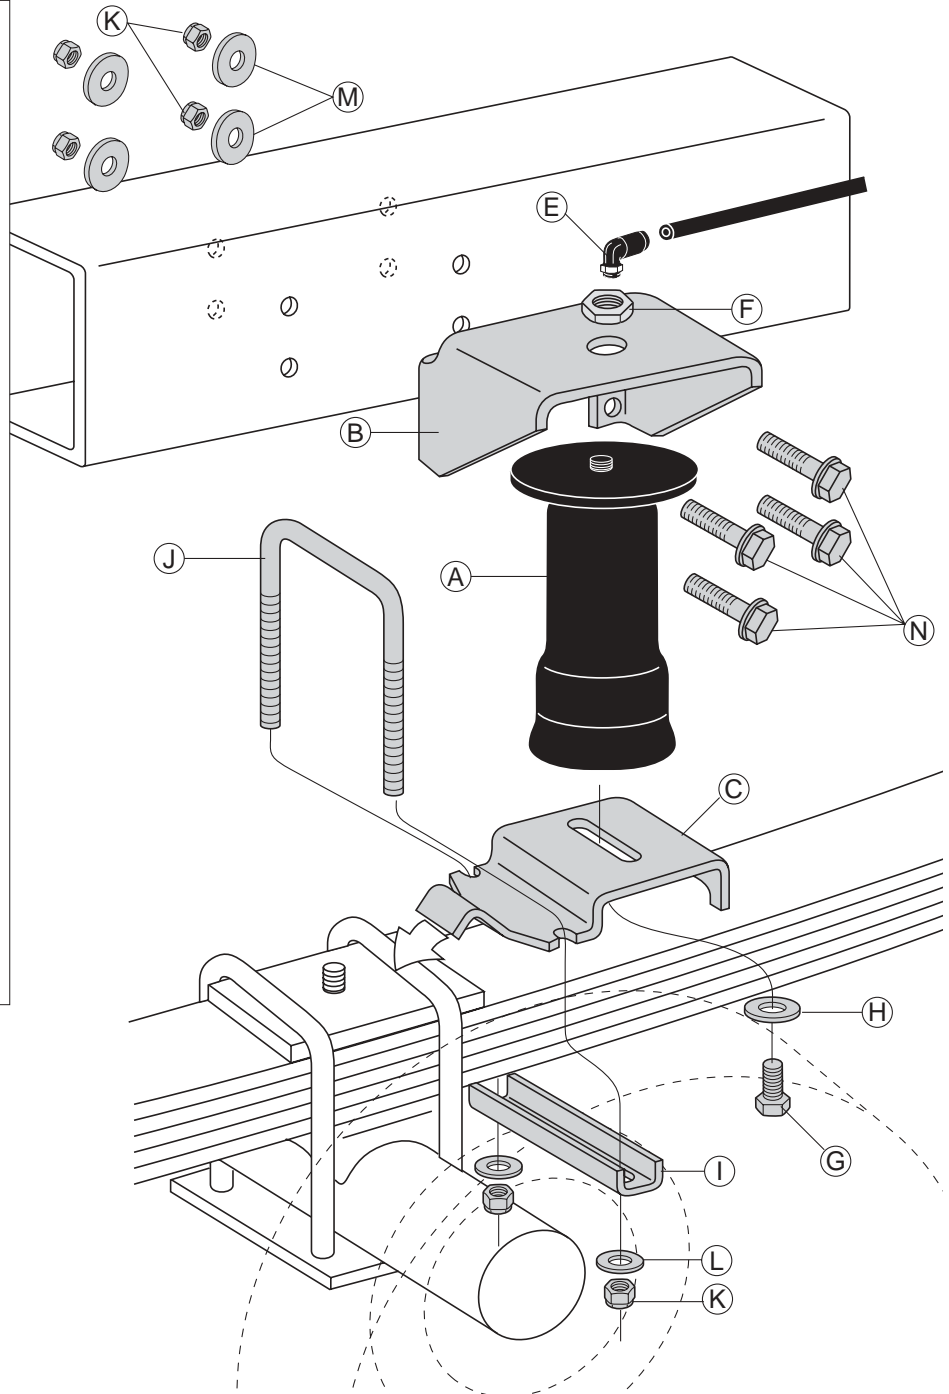

Figure 1
(\* not shown in Figure 1)
3. Loosely install a washer head frame bolt (N), large flat washer (M), and nylock nut (K). Refer to Figure 1.